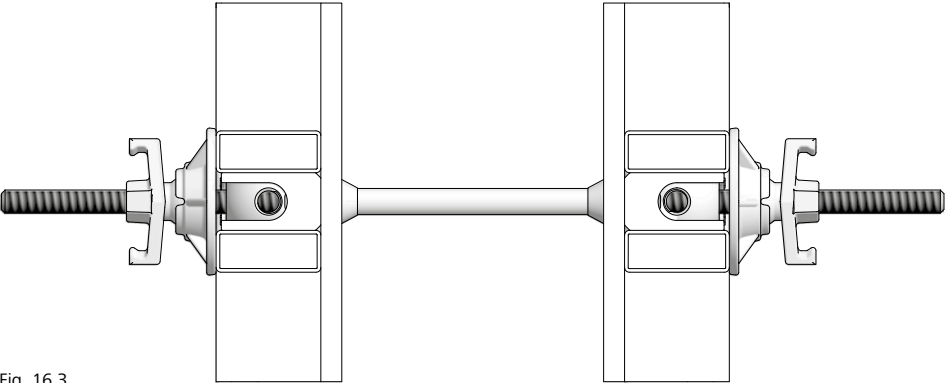

Fig. 16.3
- Two-sided tying with DW 20 tie rod and plastic tube (Fig. 16.3)